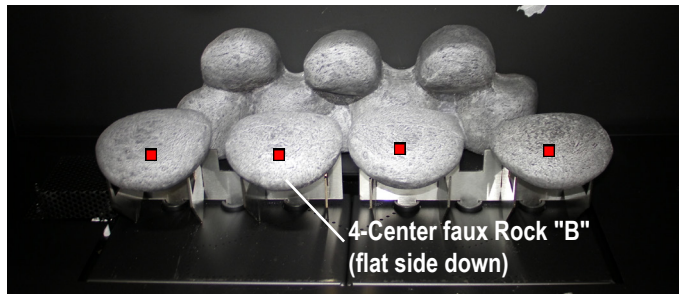

Figure 30c. Placement 4-center faux ceramic rock "B".
3. Place front Left log (Log B) and front right log (Log C) as shown in figure 30c. Place Log C knot hole as shown.